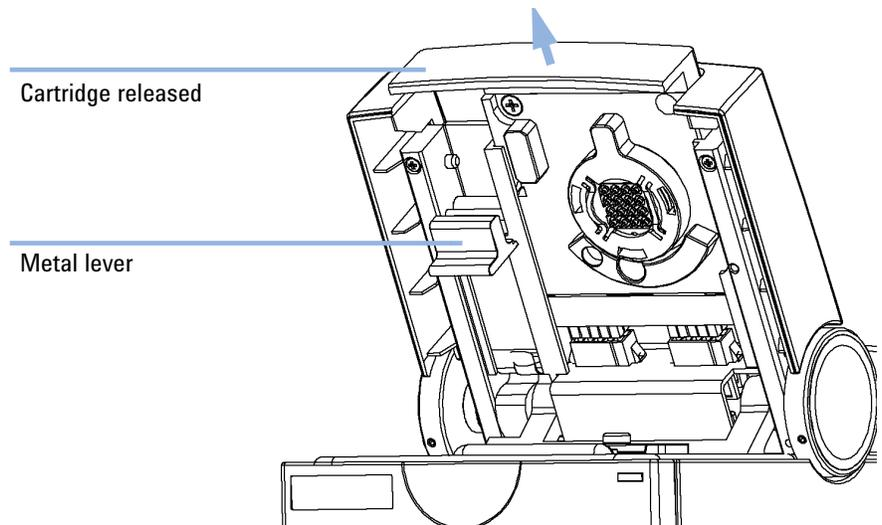

Figure 2 Removing the 16-Pin Cartridge
- 3 Pull the metal lever on the inside left of the lid to the vertical position as shown in Figure 2.
- 4 Gently pull the cartridge out of the lid as shown Figure 2.